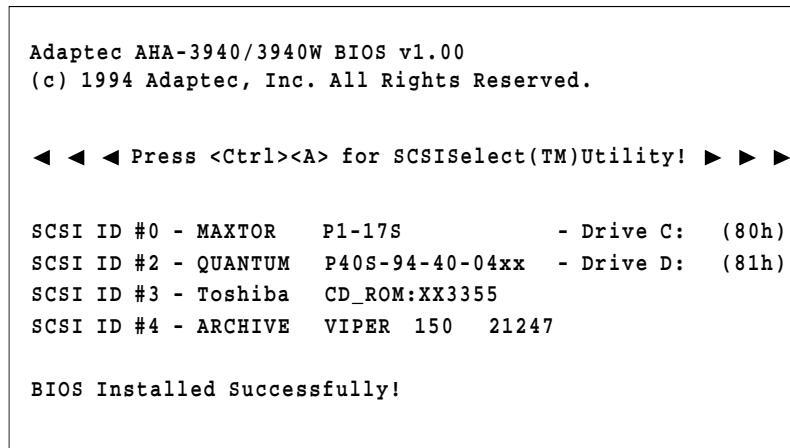

Figure 3-1. BIOS Banner
- Press **Ctrl+A** when the BIOS banner appears during bootup, as shown in Figure 3-1.